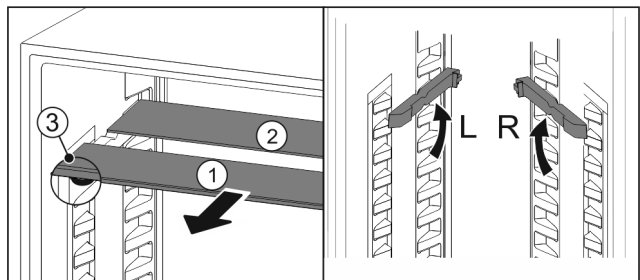

Fig. 99
- ▶ Pull the glass panels out Fig. 99 (1) from the front, one at a time.
- ▷ The glass panel Fig. 99 (1) and trim strip are at the front.
- ▷ The stops Fig. 99 (3) point down.